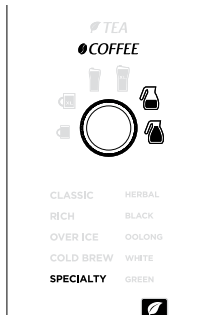

Fig. 17
- 4 Turn the START/SELECT dial to choose SPECIALTY (Fig. 17). If brewing tea, press the Tea button  to toggle to the tea menu, and use the dial to choose your tea type. To change your brew style while in the tea menu, press the Tea button  again.